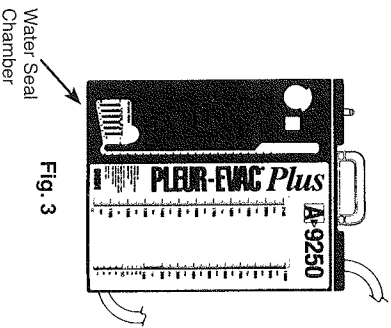

Fig. 3
- Squeeze the bottle. The bottle contains enough water to fill the Water Seal chamber (Fig. 3).